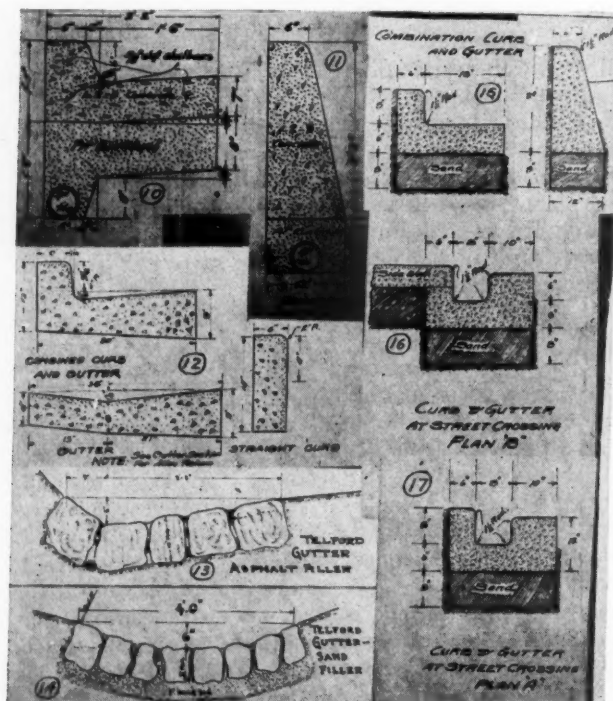

Fig. 2. Curb and Gutter Designs
J. H. Rough, village engineer of Hibbing, Minn., sent us the designs marked 10 and 11 of Fig. 2. The
former is a combined curb and gutter, 6 inches high with a 2-inch slope, with a 4-inch tile underdrain and a bed of gravel placed under the curb and gutter. The latter shows the detail of a straight curb. Both are made of 1:2:3 concrete. Illustration 12 of Fig. 2 shows the standard curb and gutter section of Topeka, Kans., W. E. Baldry, city engineer; also the straight curb, and the gutter section.
In Fig. 2, 13 and 14 were sent us by S. E. Minor & Co., civil engineers of Greenwich, Conn. The former shows a gutter of telford, or large stones. The minimum depth of gutter stones is 10 inches; the width of gutter is 3 ft. 3 ins. The flow depth is 6 inches. The joints between the stones are filled with gravel and hot asphalt, flush with the surface. The lower illustration, 14, shows a telford gutter with sand filler. This is laid on a 3-inch sand bed, the stones should be 8 inches deep, and the flow depth of the gutter is 6 ins., with a total width of 40 ins. The straight concrete curb used by this firm has a top width of 7 ins., and bottom width of 9 ins., a depth of 20 ins., and the batter on the front face. This curb is constructed with an 8-inch face showing to permit for future surfacing of the street to give a final height of 6 ins.
C. A. Mason, city engineer of Hammond, Ind., furnished 15, 16 and 17 of Fig. 2. The top illustration shows the standard combined curb and gutter and the curb, with the method of setting. An unusual form of curb and gutter for street crossings is shown in 16 and 17, along with dimensions and other data.